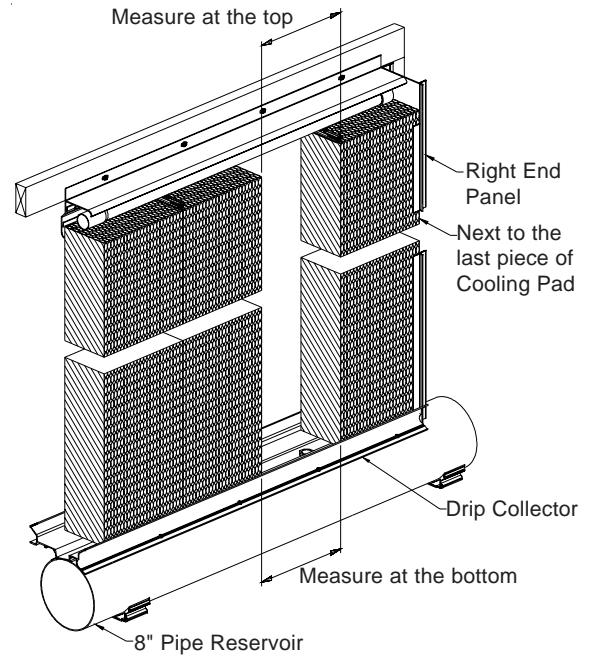

Figure 16
22) Slide the next to the last piece of pad into the end panel. Measure the opening that is left for the last piece of pad at the top and bottom of the opening. If the opening is smaller than the width of the last piece of pad, then using a hand saw, trim the last piece of cooling pad to fit the opening. Put the last piece in place. **See Figure 16.**